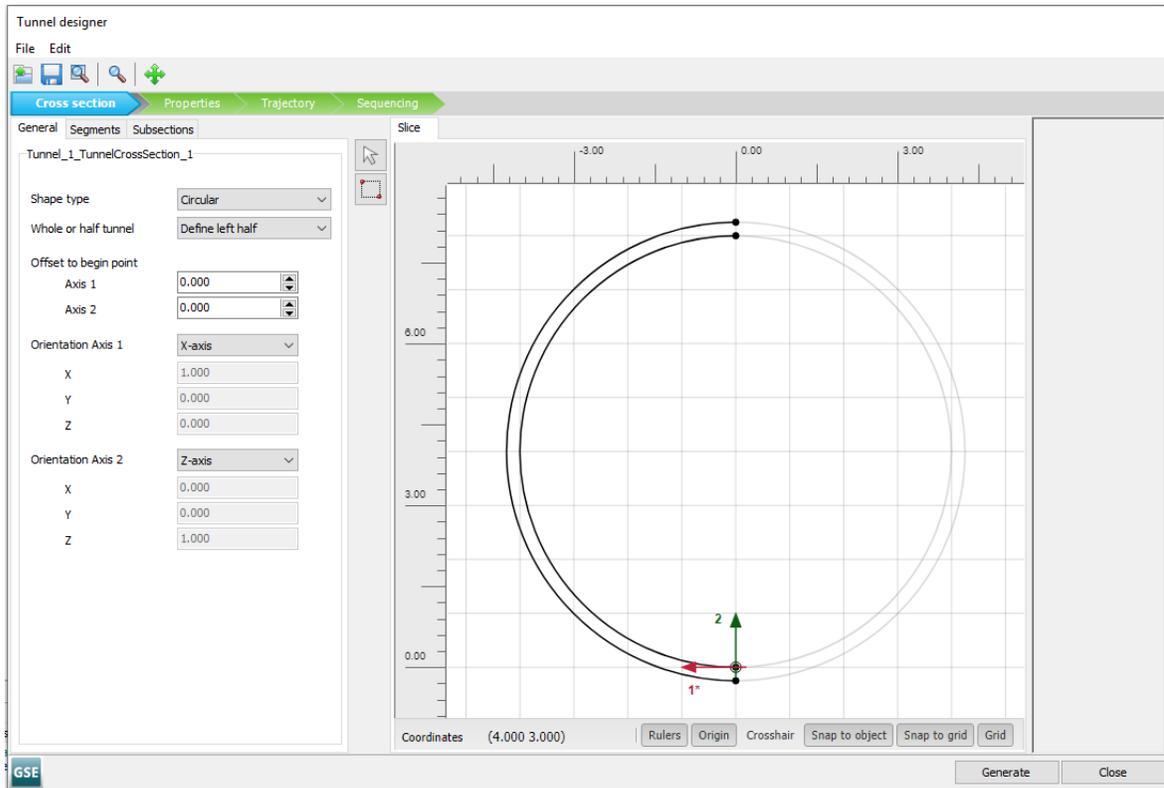

Figure 71: General tabsheet of the Tunnel designer
6. The left half of the tunnel is generated in this example. Select the **Define left half** option in the drop-down menu for the *Whole or half tunnel*. A screenshot of the **General** tabsheet after the proper assignment is given in Figure 71 (on page 98).